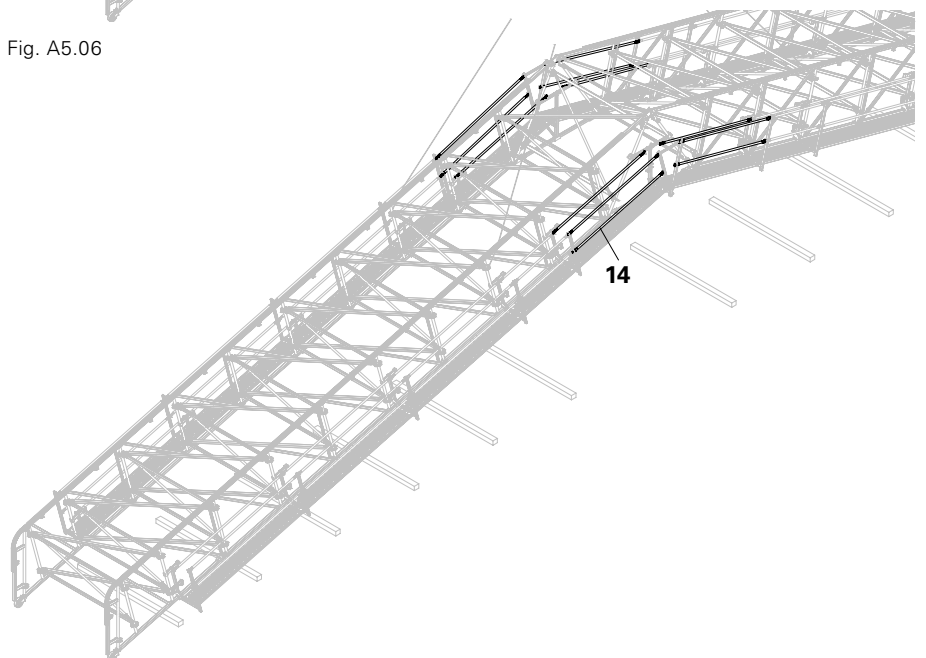

Fig. A5.07
4. Mount Guardrails (14), see Section A2.3. (Fig. A5.07)